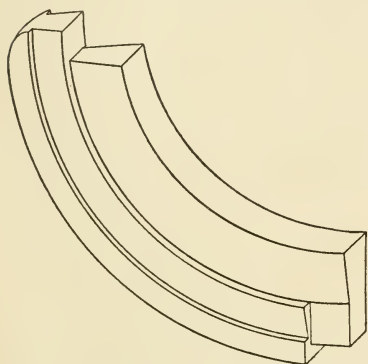
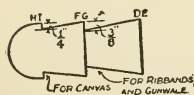

FIG. 200. — Bow and Stern Pieces.
FIG. 202. — Section through Bow and Stern Pieces.
**The Bow and Stern Pieces** (see Fig. 200). — The proper way of laying these out on the eight-inch plank is shown
in the drawing. At the lower end of the pattern draw the line  $OP$  two inches from and parallel to  $GK$ , and the line  $QR$  one inch from and parallel to  $PK$ . Having carefully drawn out this pattern, turn over the plank and draw the same thing upon it, locating the points exactly opposite one another, by squaring lines across the sides and edge. Prepare the other piece of plank similarly. To cut out the patterns, place them in the vise of your work-bench, one at a time, and rabbet the surfaces between  $DE$  and  $FG$ , and  $FG$  and  $HI$ , as shown in the section drawing, Fig. 202. This done
out the corners  $FLMD$  and  $PQRK$ . Then follow roughly the curves of lines  $DE$  and  $JP$ , after which place the work in the vise and trim them off nicely with a draw-knife, rounding the outer curve as shown in Fig. 202. The portion  $OQRG$  should be cut down to a plain surface as shown in Fig. 200.
**The Gunwales**, and after locating the exact centre of each, screw them at this point to the ends of the mould just below the top. Drive these screws but part way in, as the mould is to be removed later on. Commencing at the bow end of the canoe, draw the end of one gunwale to the bow piece, and, after marking it the correct length cut it off so it will fit nicely in the rabbet cut in the side of the bow piece. Then screw the other end to the stern piece, after which attach the gunwale on the opposite side in the same way (see Figs. 200, 205, and 206).